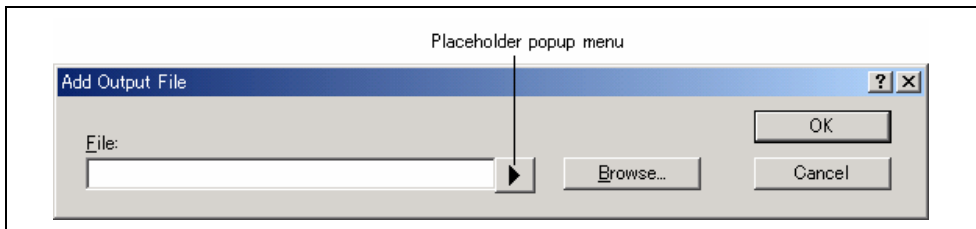

Figure 3.13: Add Output File Dialog
1. Click “Add...”. The “Add Output File” dialog will be invoked (figure 3.13).
2. Click “Modify...”. The “Modify Output File” dialog, which is the same as figure 3.13 except the title, will be invoked.